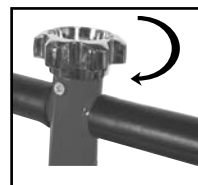

Fig. 15
- Slowly turn the release knob (1) counter-clockwise to lower the vehicle onto the jack stands [Fig 15].